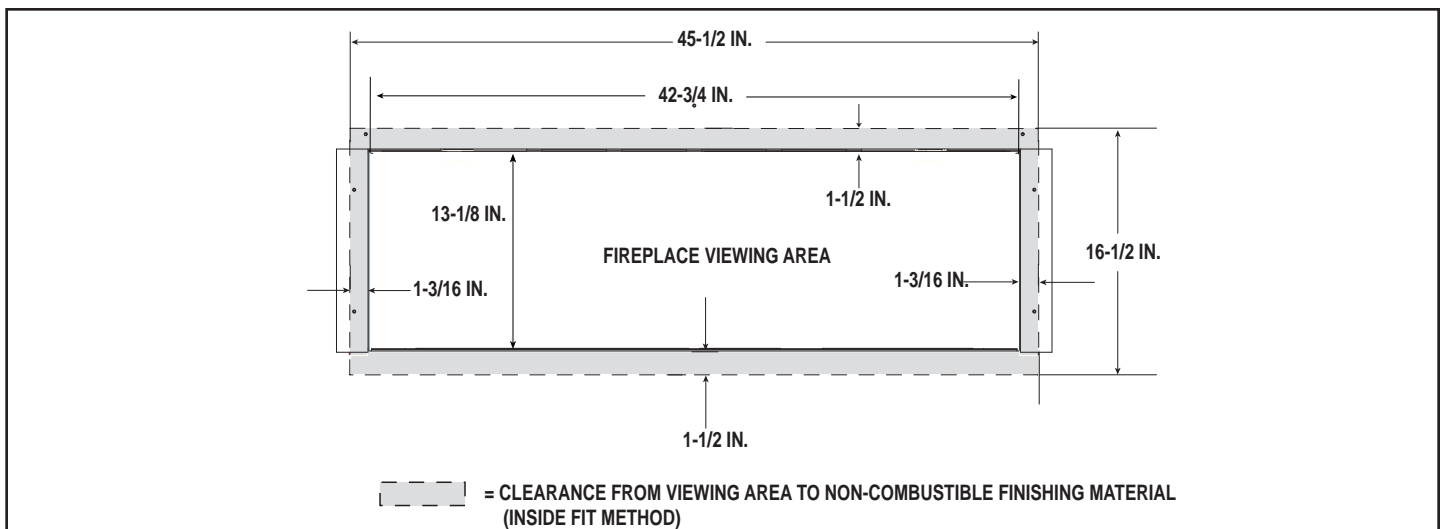
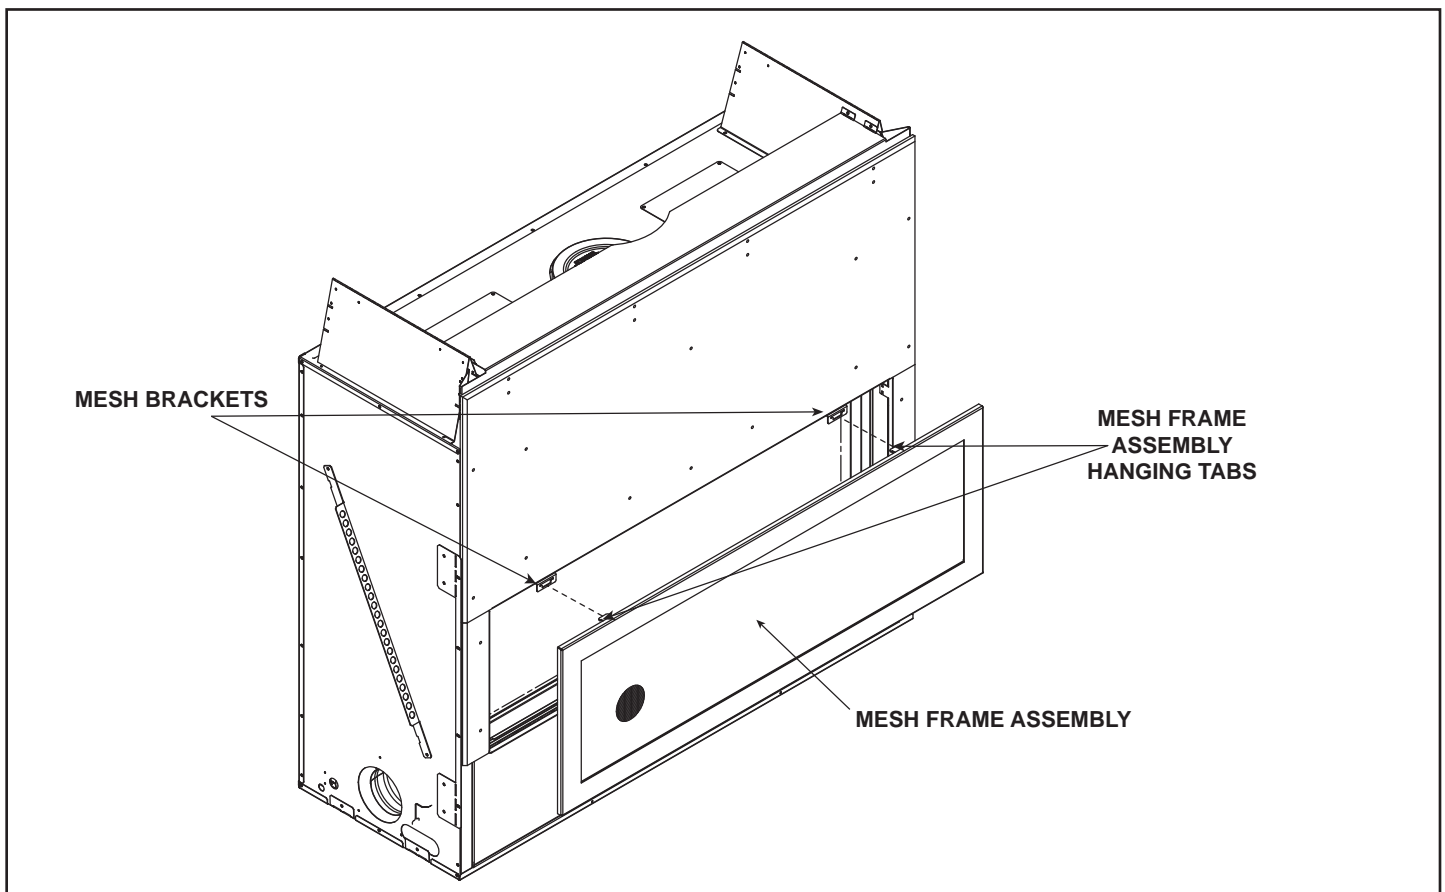

Figure 13.10 Noncombustible Surface Finishing Material 0-4 Inches Thick-Inside Fit Method
Figure 13.11. Mesh Front Installation.
**Note:** For non-combustible fireplace finish material (marble, stone, etc) specifications refer to Figure 13.10 and Figure 13.11.
Ensure that no non-combustible finish materials are installed within 1-1/2 inches of top and bottom and 1-3/16 inches from right and left sides of fireplace opening. This will ensure adequate clearance for required mesh front. See Figure 13.11.
To attach the mesh front to the appliance, use the two mesh brackets. These brackets are mounted to the underside of the top of the appliance viewing area and are fastened to the appliance by two screws on each bracket. See Figure 13.11. There are two hanging tabs on the back of the mesh front assembly that are bent upward. Engage these tabs in the slot of the brackets.